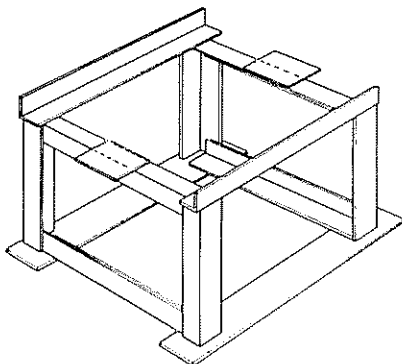

Figure 8
- A. A McGraw-Edison elevating structure—built to customer specifications—(Figure 8) simplifies substation installation of regulators requiring a specific bushing height.